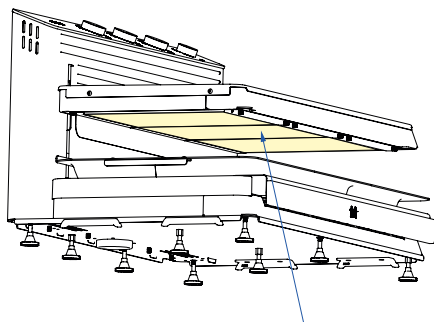

Figure 24
- MiiTi 09 models have 3 filament protection glasses (Figure 24).